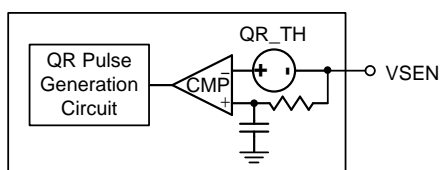

Figure 11. GFX Controller : Quick Response Triggering Circuit
When the transient load step-up becomes quite large, it is difficult for loop response to meet the energy transfer. Hence, the output voltage generate undershoot to fail specification. The RT3668EB has Quick Response (QR) mechanism which is able to improve this issue. It adopts a nonlinear control mechanism which can disable interleaving function and simultaneously turn on all UGATE one pulse at instantaneous step-up transient load to restrain the output voltage drooping. The output voltage signal behavior needs to be detected so that QR mechanism can be triggered. Refer to Figure 11, the output voltage signal is via a remote sense line to connect at the VSEN pin. The QR threshold can be set by SET1 pin setting for GFX controller refers to Table 3.